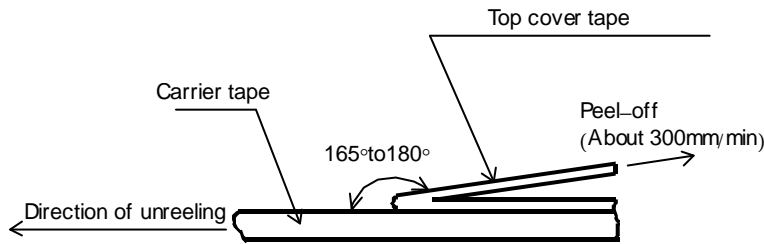
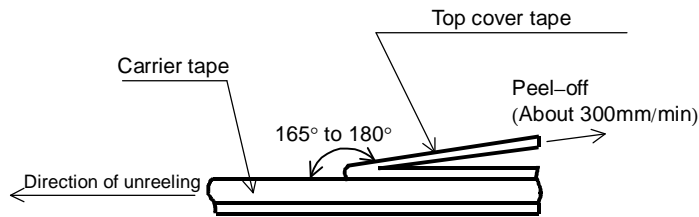

Figure-5
Figure-6
- 5). The peel strength of the top cover tape shall be within 0.1N to 0.5N on the test method as shown in the following FCC10, FHC10:Figure-5, FCC16,20,32, FHC16,20,32 : Figure-6.